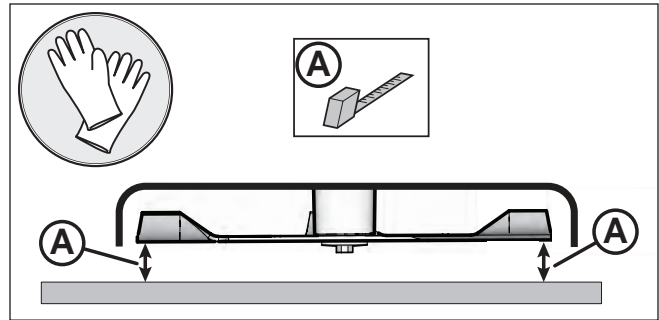

Figure 40. Measuring the Blade Height
7. See Figure 40. Position the outside mower blades so they face front-to-back.